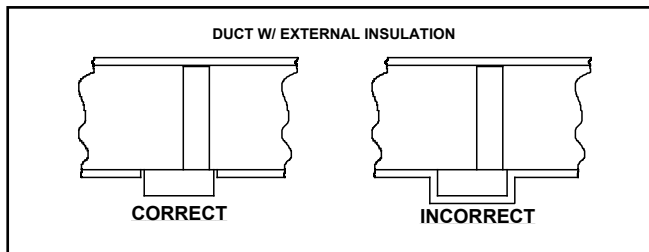

FIGURE 3.1.8 PLACEMENT: CONTROL BOX REQUIREMENTS
12. Never insulate the exterior of the control box. The control box must be completely accessible and located where ventilation can be provided at all times. (see Figure 3.1.8)